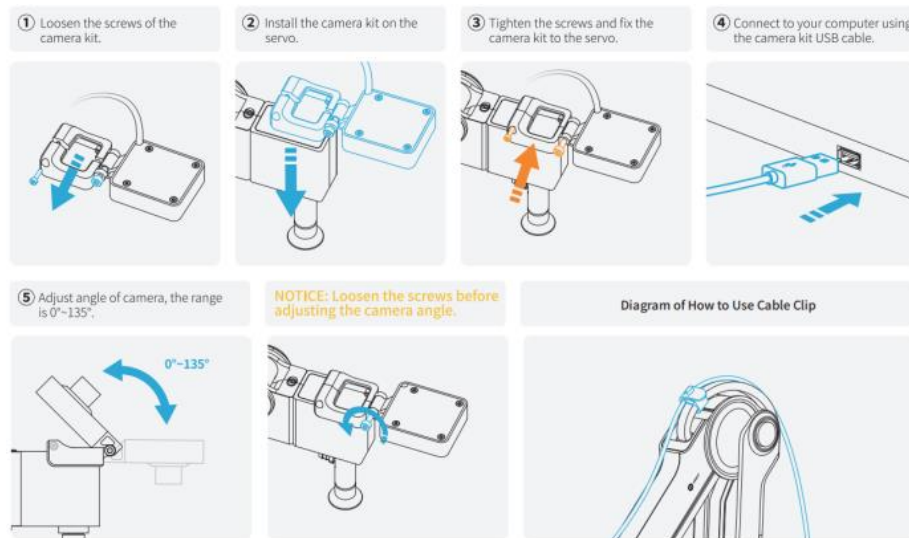

Figure 4.11 Installing the camera
Step 2: Install a camera at the end of Magician Lite, as shown in Figure 4.11.